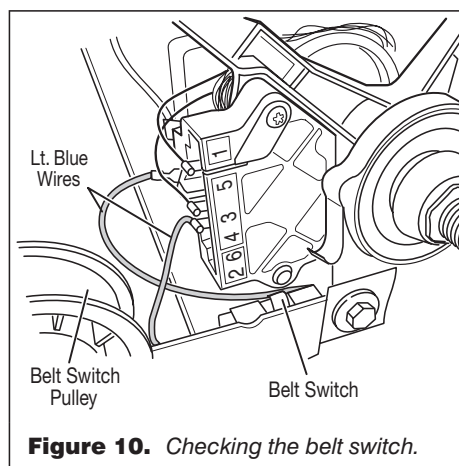

Figure 10. Checking the belt switch.
7. Check the belt switch by measuring resistance between the two light blue wires, as shown in figure 10, while pushing up the belt switch pulley.